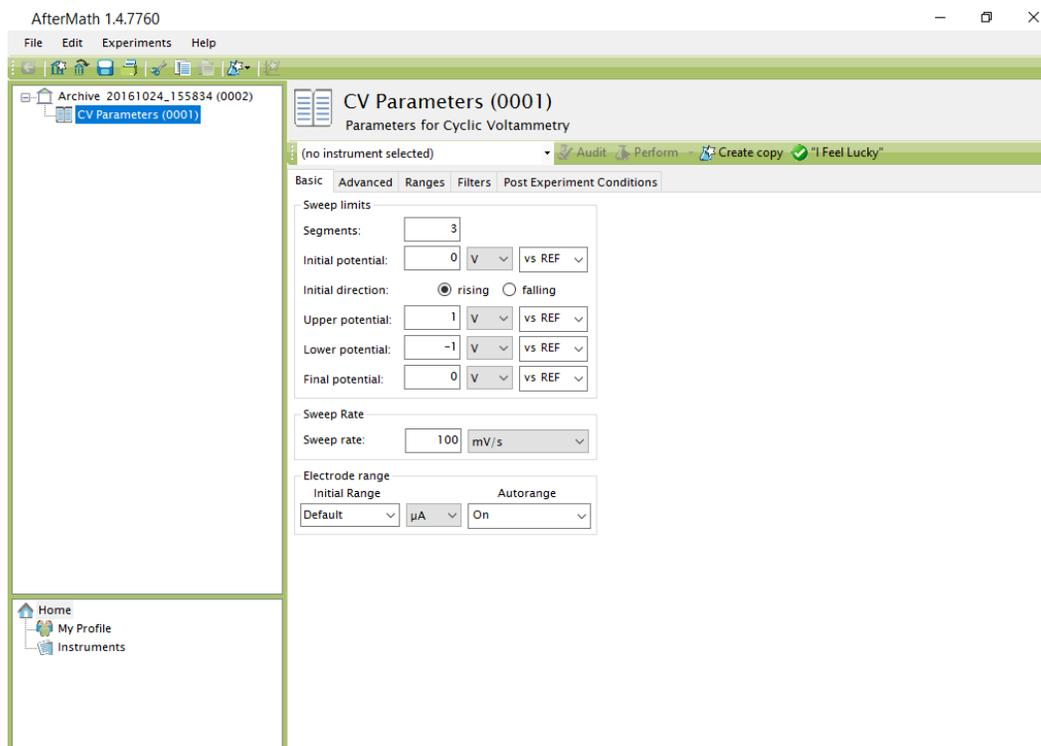

Figure 5: Screen Capture of AfterMath CV Setup
- Start AfterMath and from Experiments select Cyclic Voltammetry. Select "I Feel Lucky" button to fill in the values (see Figure 5 for a screen capture of the values for the CV experiment). Perform the CV. For best results under "Electrode Range" switch Autorange to "Off" and select 1 mA for the "Initial Range".